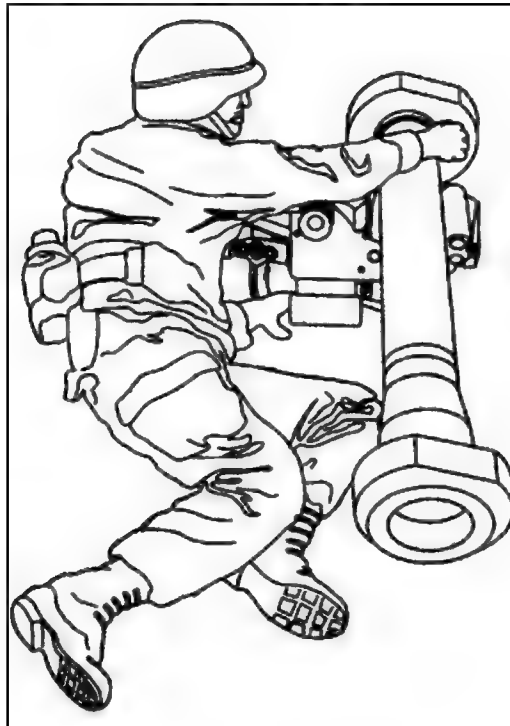

Figure 2-27. Remove the forward end cap.
- (8) Remove the forward end cap (Figure 2-27).